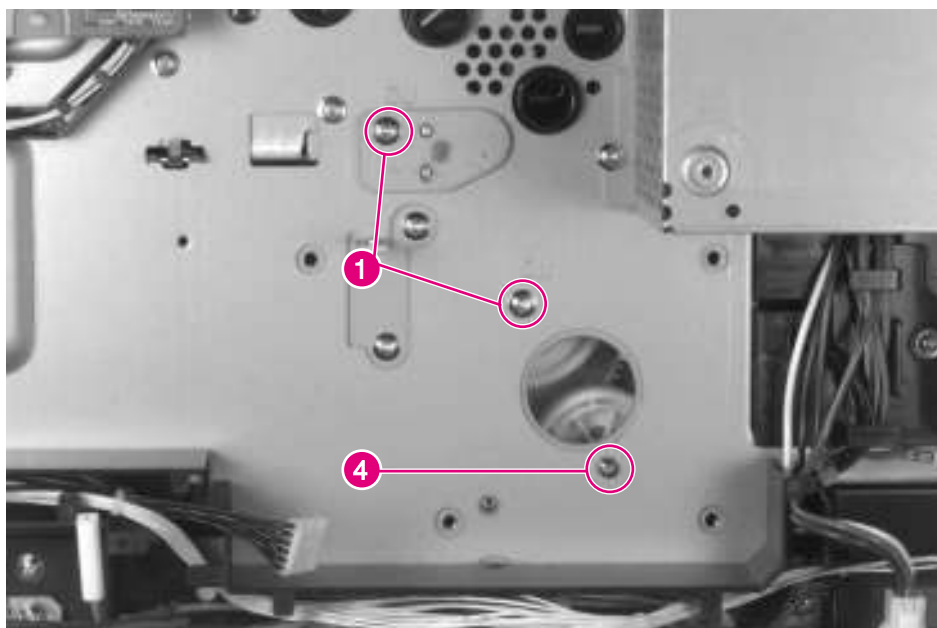

Figure 6-38 Main Gear Assembly (1 of 3)
- 2 Remove 2 screws (figure 6-38 on page 310, callout 1).
- 4 Make sure that the locating pins are properly aligned and that the gear assembly fits tightly against the chassis before replacing the screws (figure 6-38, callout 4).